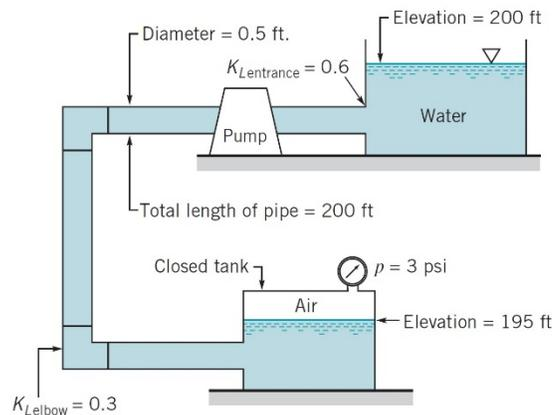

Figure 4
4. The pump shown in Fig. 4 adds a 15-ft head to the water ($\rho = 1.94 \text{ slugs/ft}^3$, $\mu = 2.34 \times 10^{-5} \text{ lbf}\cdot\text{s/ft}^2$ and $\gamma = 62.4 \text{ lbf/ft}^3$) being pumped from the upper tank to the lower tank. If the pipe has a roughness $\varepsilon = 0.003 \text{ ft}$, determine the flow rate Q . Use $f = 0.03$ as the initial guess then the following equation for the remaining iterations until f converges to the thousandth decimal place. (Note: $1 \text{ psi} = 144 \text{ lbf/ft}^2$ and $g = 32.2 \text{ ft/s}^2$)